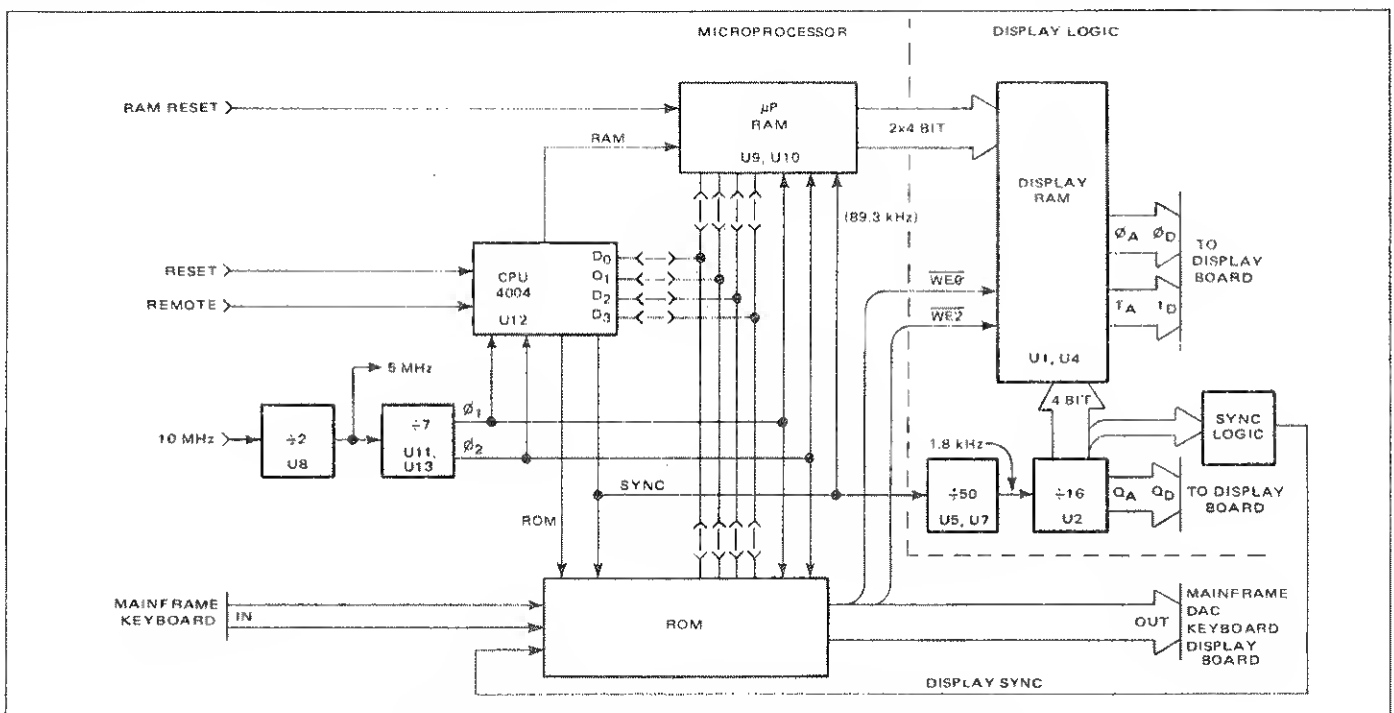

Figure 4.19 - Computer III Microprocessor/Display Logic
4.4.7.5.1 The μP , shown simplified in figure 4.19, consists of a central processor unit (CPU), two 4-bit random access memories (μP RAM), ten 8-bit read only memories (ROM) and a two phase, 715 kHz clock circuit.